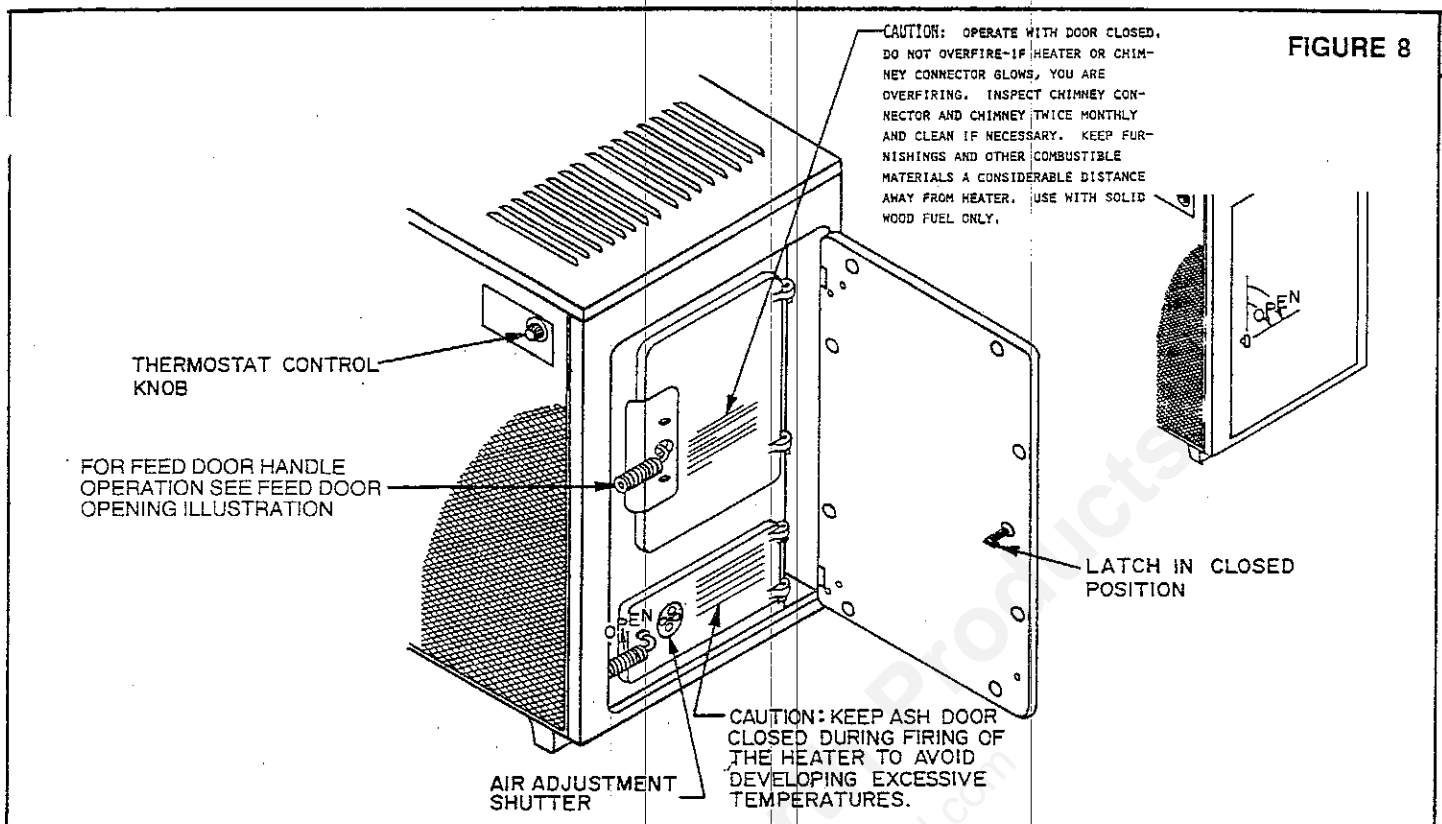

FIGURE 8
5. DO NOT TAMPER WITH THE INTERNAL THERMOSTAT MECHANISM. The thermostat has been designed and calibrated to provide continuous control of the fire for safety and efficiency. Thermostat adjustments are made with the thermostat control knob only. (See figure 8.)
Creosote is more likely to accumulate in the chimney connector and chimney liner during extended periods of low firing. This accumulation can be reduced by proper setting of the air shutter on the ash door. (See figure 8.)